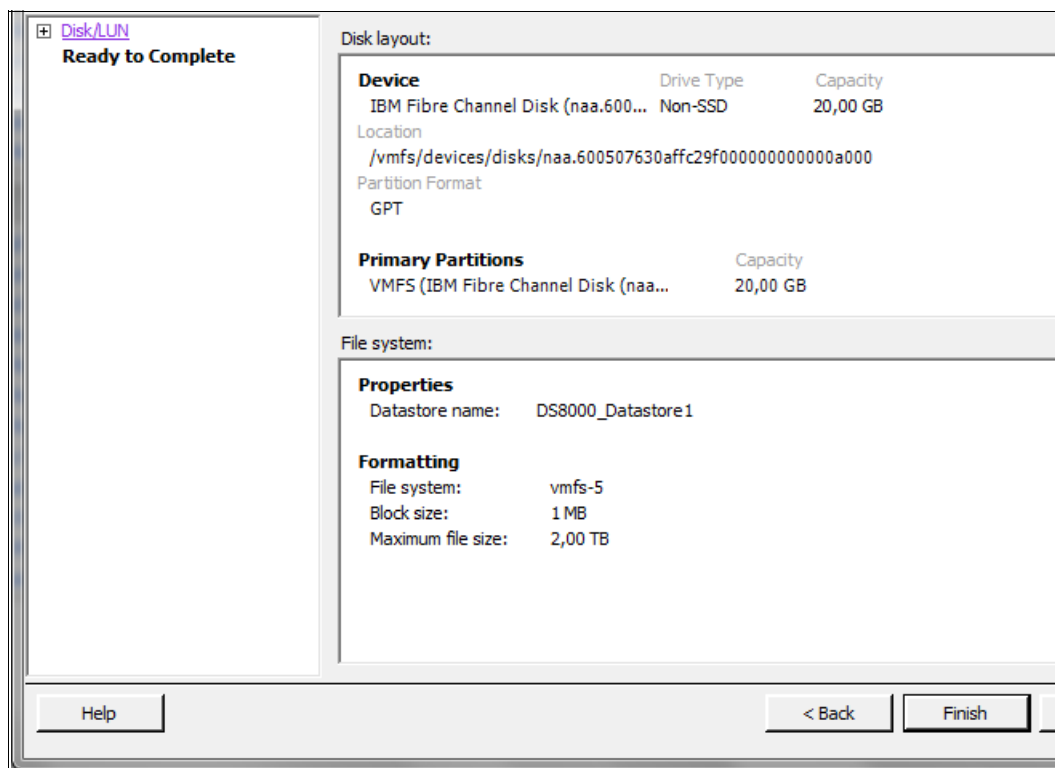

Figure 7-15 Add storage summary page
- g. Check the summary in the Ready to Complete window shown in Figure 7-15 and click **Finish**.